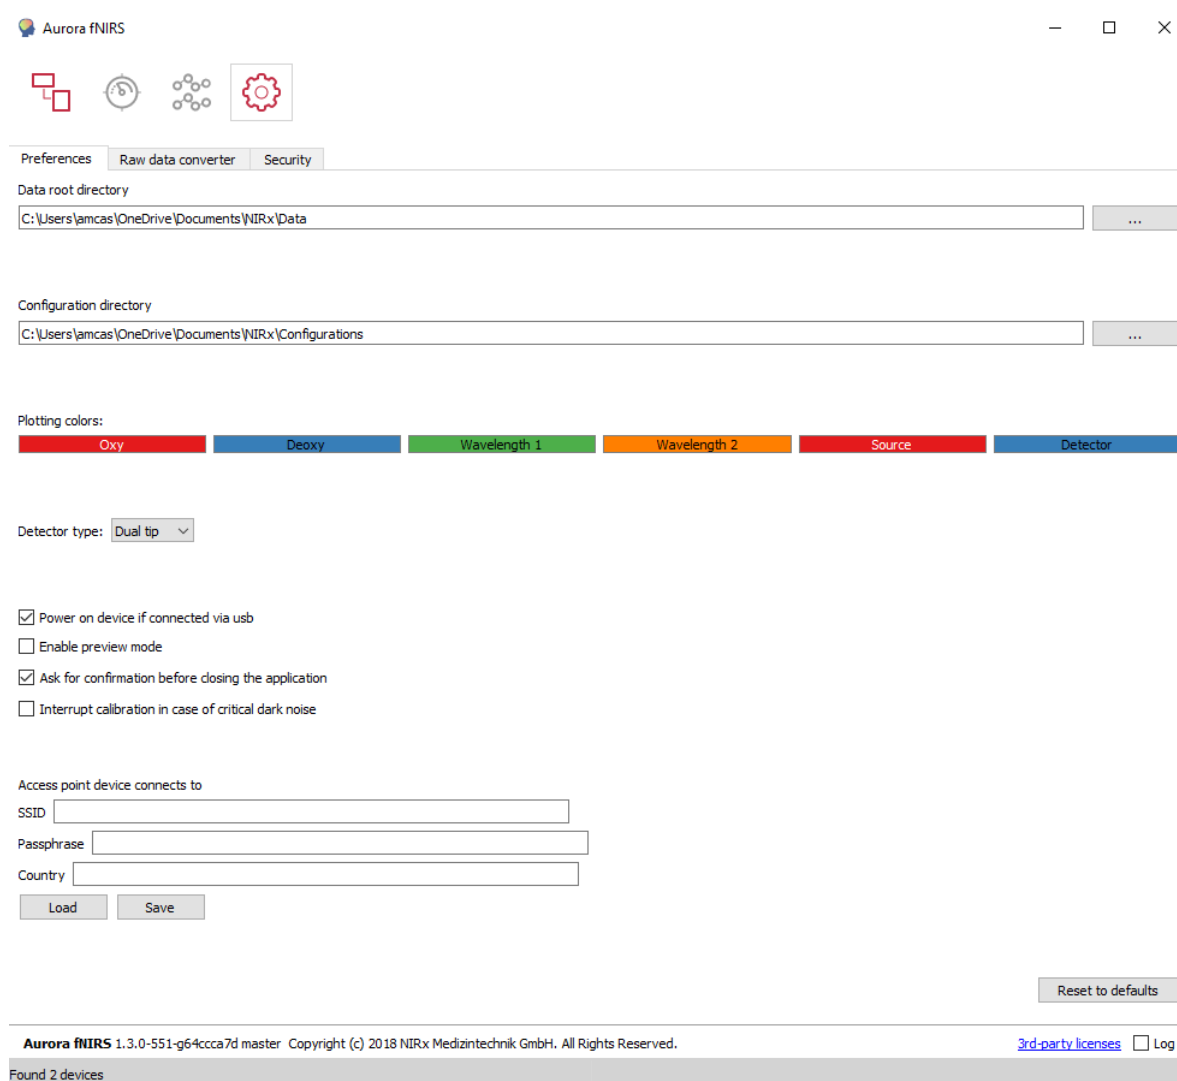

Figure 6.7: The Preferences window
- In Aurora fNIRS, under *Settings*, scroll down to access point settings and enter the SSID and password of the network of the access point that will be used (as in figure 6.7).
Ensure that the correct detector type is selected under the *Settings > Preferences* tab (single tip SiPD, dual tip SiPD, or APD). As seen in Figure 6.7, this can be selected in the drop-down menu next to *Detector type* in the middle of the page. The detector type affects the threshold set for dark noise measurements. Choosing incorrect type may lead to misinterpretation of dark noise results.